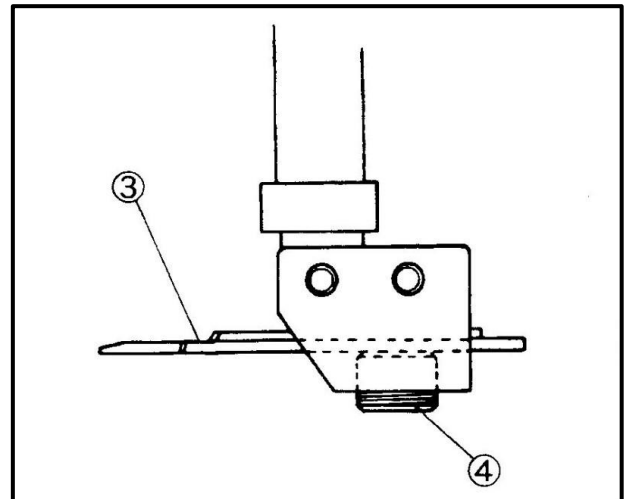

Fig.31
- (1) For the standard position of the lower knife ①, make the distance between the lower knife ① tip and the lower knife clamp ② to 0-0.5 mm.
- (2) For the standard position of the upper knife ③, engage between the upper knife ③ and lower knife ① to 0.5 mm when the upper knife ③ is at the extreme left.
- (3) Loosen the screws ④ and ⑤ to adjust the lower and upper knives respectively.(Fig.31 , 32)